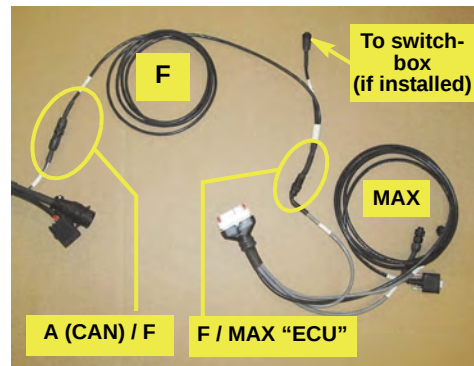

Figure 1b: Splitter cable connections
- Using the splitter (‘Y’) cable **F** (but see note following), tie into the existing CAN connection. For example, connect **F** between the 7-pin CAN connector labeled “ECU” on the Outback MAX cable (with the white main connector) and the 7-pin CAN connector on interface cable **A** (Figure 1b).
You can use splitter cable **F** as an extension cable between interface cable **A** and the CAN connection “ECU” on the (white connector) Outback MAX cable. You can also use cable **F** to connect the switchbox if installed (Figure 1b).